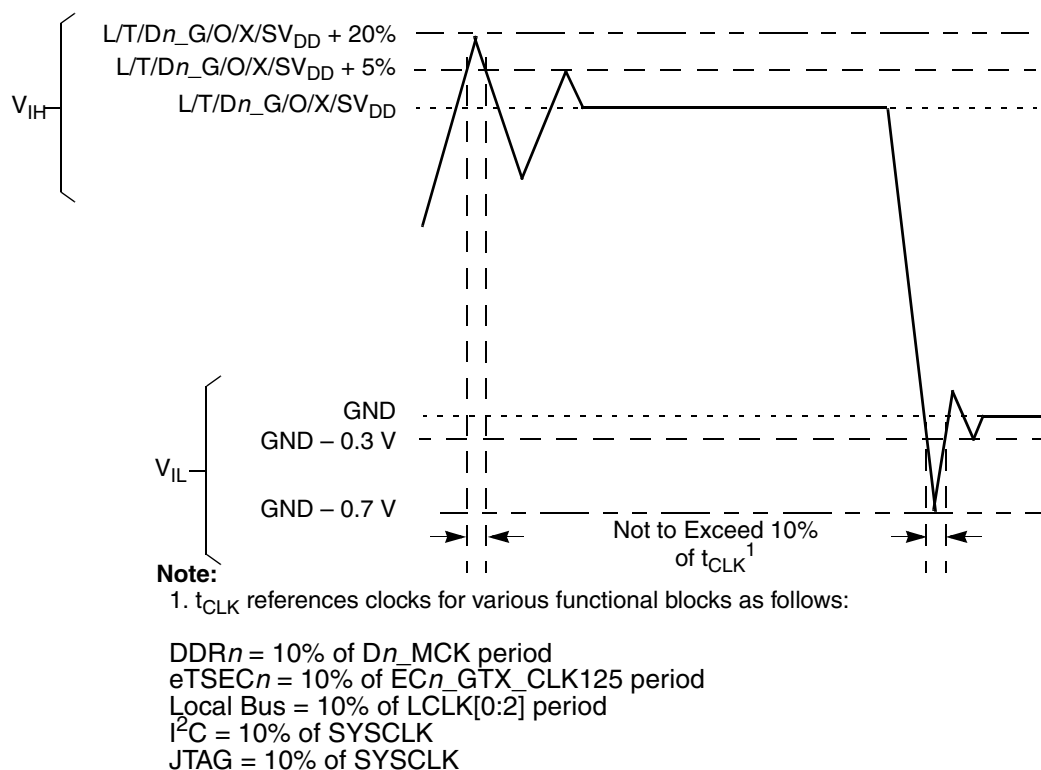

Figure 2. Overshoot/Undershoot Voltage for $Dn\_M/O/L/TV_{IN}$
- During run time (M,L,T,O) V_{IN} and Dn_MV_{REF} may overshoot/undershoot to a voltage and for a maximum duration as shown in Figure 2.
- Caution:** Dn_MV_{IN} must meet the overshoot/undershoot requirements for Dn_GV_{DD} as shown in Figure 2.
- Caution:** L/TV_{IN} must meet the overshoot/undershoot requirements for L/TV_{DD} as shown in Figure 2 during regular run time.
- Caution:** OV_{IN} must meet the overshoot/undershoot requirements for OV_{DD} as shown in Figure 2 during regular run time.
- Timing limitations for $M,L,T,O)V_{IN}$ and Dn_MV_{REF} during regular run time is provided in Figure 2
Figure 2 shows the undershoot and overshoot voltages at the interfaces of the MPC8641.